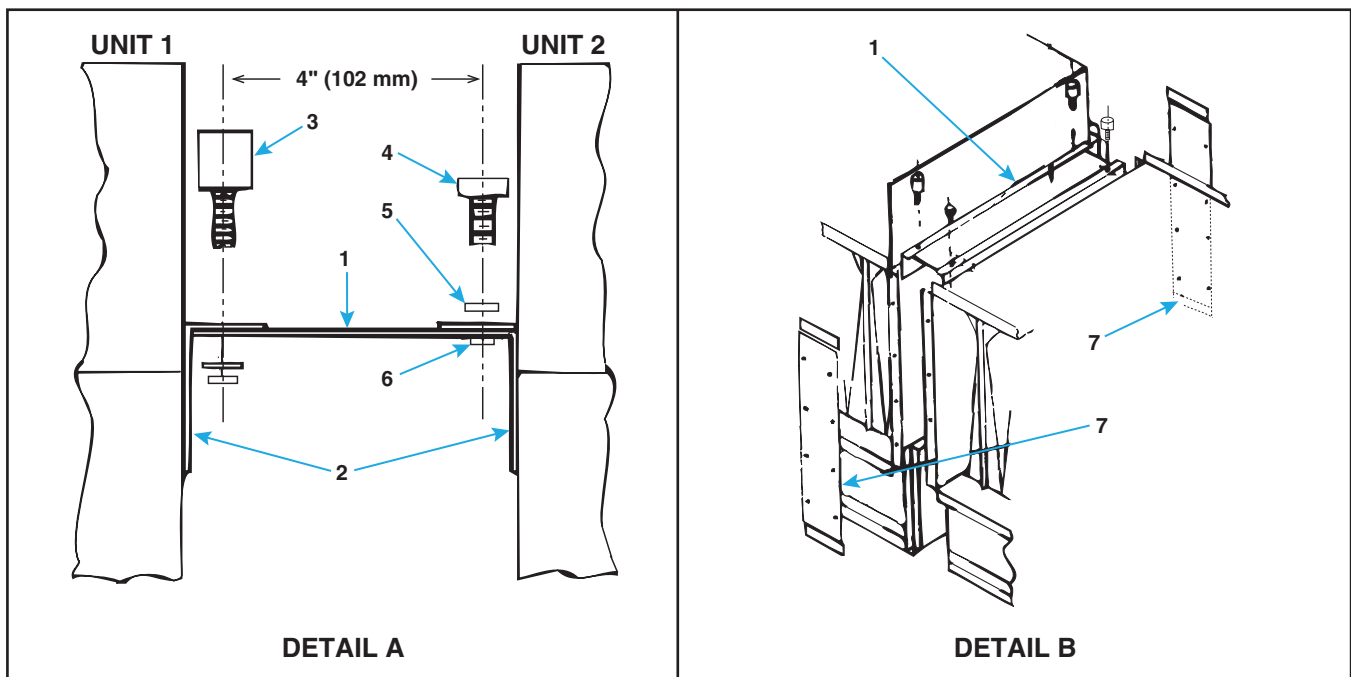
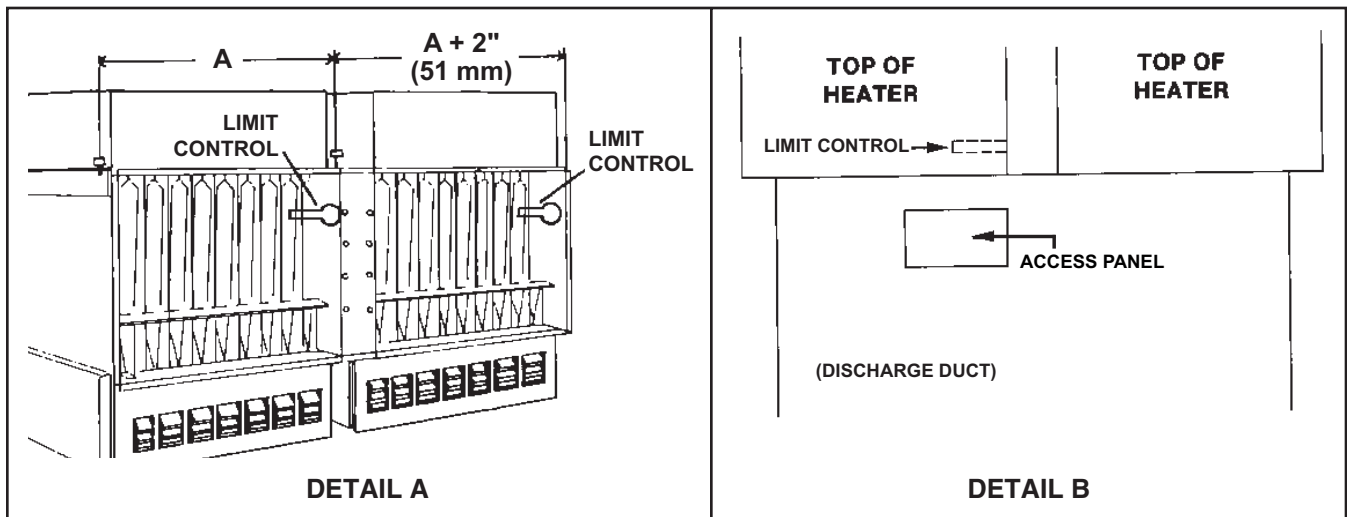

Figure 7. Coupling Kit Installation
Figure 8. Front and Top Views of Coupled Furnaces
Coupling of furnaces is done using optional coupling kits, which are listed in Table 8. Couple two, three, four, or five furnaces together as follows. Item numbers in parentheses refer to Figure 7 and Table 9.
2. Position second furnace next to first furnace so that tie plate (1) is below hanger angle (2). Secure tie plate to hanger angle using bolts (4), lockwashers (5), and nuts (6).
3. Position filler plates (7) as shown in Figure 7, DETAIL B. Using filler plate as template, drill 1/8-inch diameter holes and secure filler plates using sheet metal screws (8). Offset of filler plate allows alignment with unit duct flanges (see Figure 8, DETAIL A).
- Coupled units require access panels (see Figure 8, DETAIL B) in the top or bottom of the outlet ductwork for limit control service and observation of coupled units (refer to Duct Connections section).
- Refer to Figure 8, DETAIL B and Table 10 for coupled furnace front view dimensions.
*See Figure 8, DETAIL A.